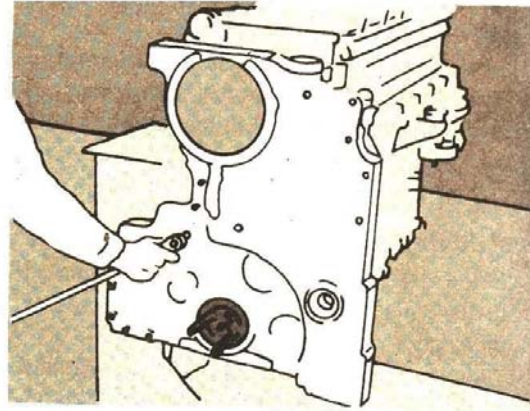

Fig. 14-36, Install the front cover
3. Align the cover over the shafts and dowels in the housing and tap into position using a soft hammer. Fig. 14-36.